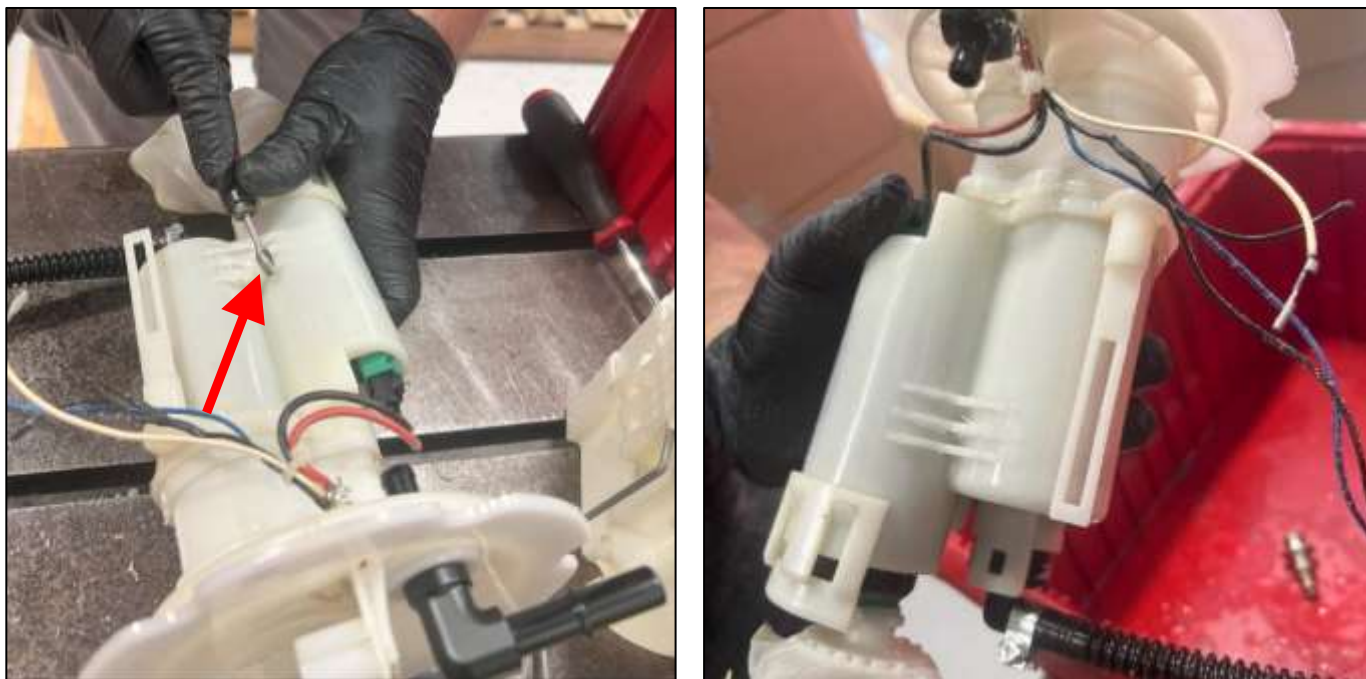

Figure 16
29. Using a file or Dremel remove some material on the plastic webbing on the side of the Fuel Pump Housing. This will allow the PTFE Fuel Tube to sit nicer when routed to the Bulkhead Fitting. *Figure 16.*